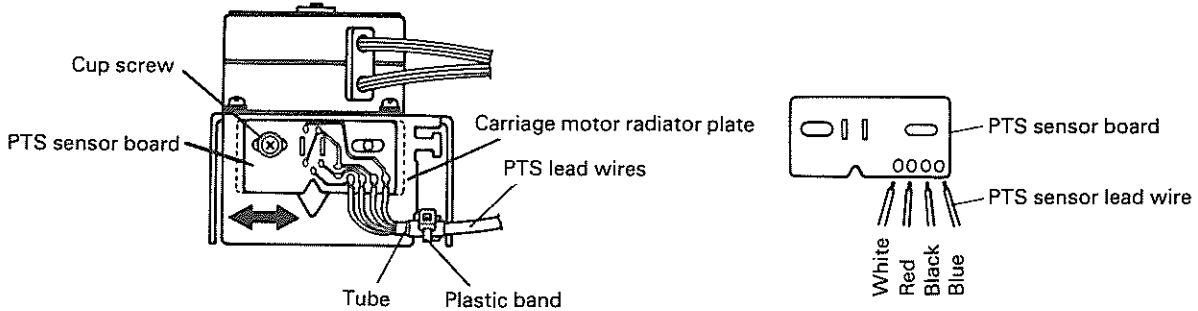

Fig. 4-21. Removal of PTS Sensor Board
(3) Removal of PTS Sensor Board (Fig. 4-21)